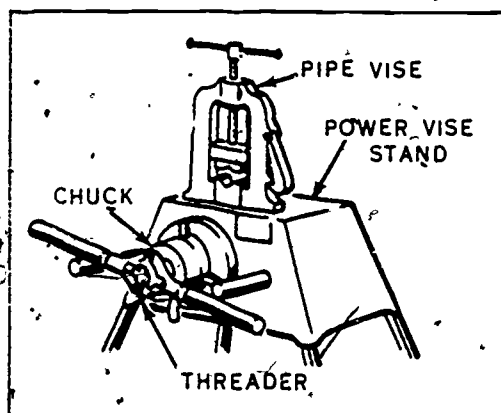

Figure 4-33. Power-driven vise stand.
**Portable Vise Stand.** Another type of thread-cutting machine that you will probably use is the portable power-driven vise stand, shown in figure 4-33. This machine is so designed that it turns the pipe to be cut or threaded while the threader is resting on the arms of the machine. The pipe to be cut, reamed, and threaded is inserted in the chuck in the same manner as in the power threading machine mentioned previously. The portable vise stand is equipped with a chuck which grips pipe from 1/4 to 2 inches in diameter. It is powered by a reversible, variable-speed electric motor. Other equipment used with the vise stand is the pipe cutter, the reamer, and the threader. A pipe vise is bolted to the top of the machine.